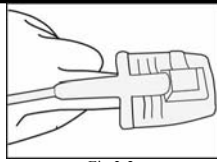

Fig.3-2
(2) Secondly fix the sensor on your finger correctly as shown in Fig.3-2. Be sure to make the finger touches the bottom of the probe and the nail surface is facing upwards.